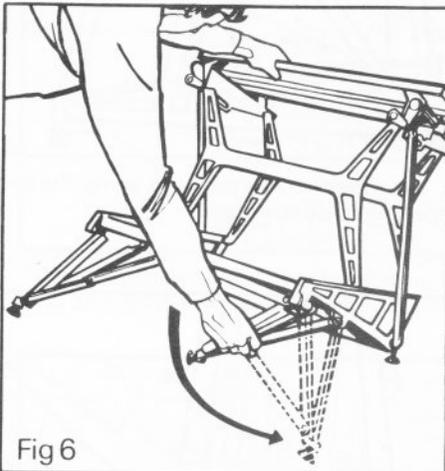
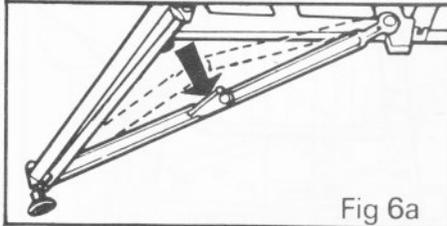

Fig 6
Fig 6a
- 6 Tilt the Workmate away from you and pull out the two front legs located under the foot board (see Fig. 6). Ensure that leg support struts are fully extended, see Fig. 6a.